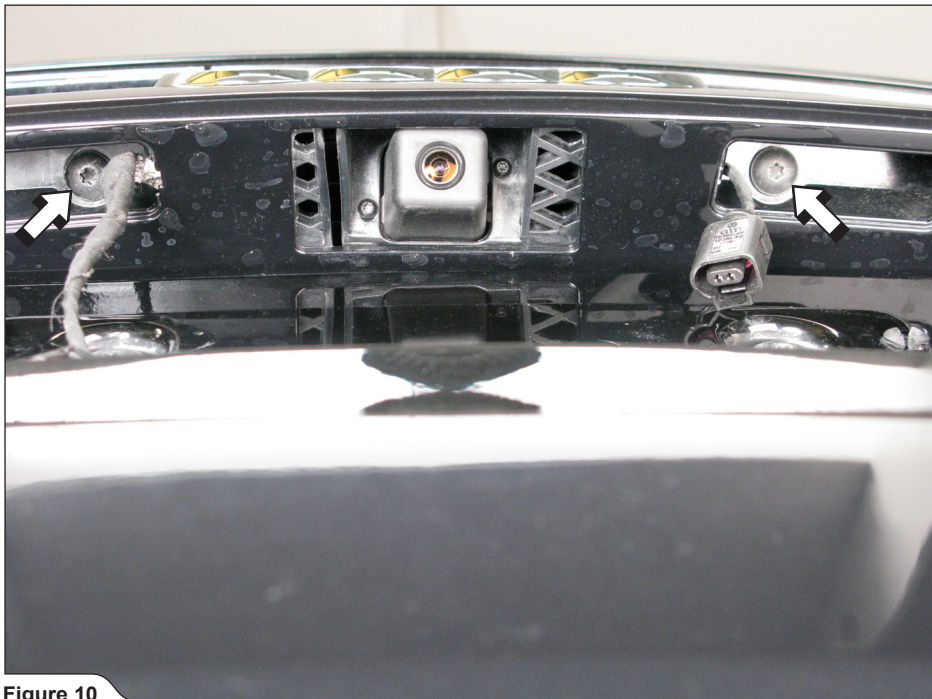

Figure 10
7. Unscrew the marked bolts (Figure 10).